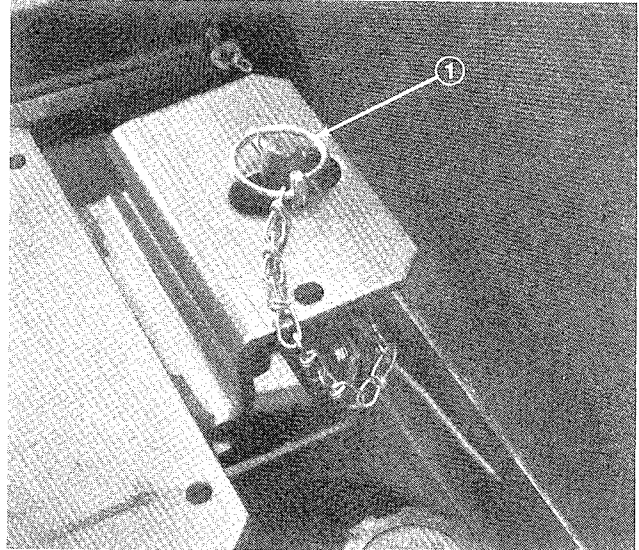

Figure 11
6. Disengage seat support rod and pivot downward. Pivot seat down and push lynch pin through seat latch stud. Flip wire end of pin over latch stud (Fig. 11).